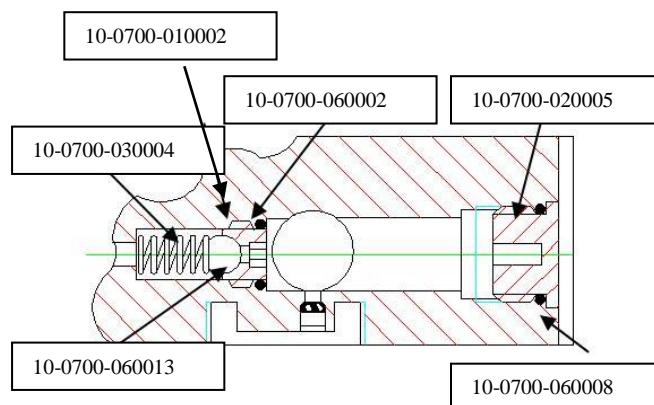

Figure 18
11.0 ALARM CHECK VALVE DISASSEMBLY/REASSEMBLY-REAR OF 30L LOW FLOW BLENDER (FIGURE 18)